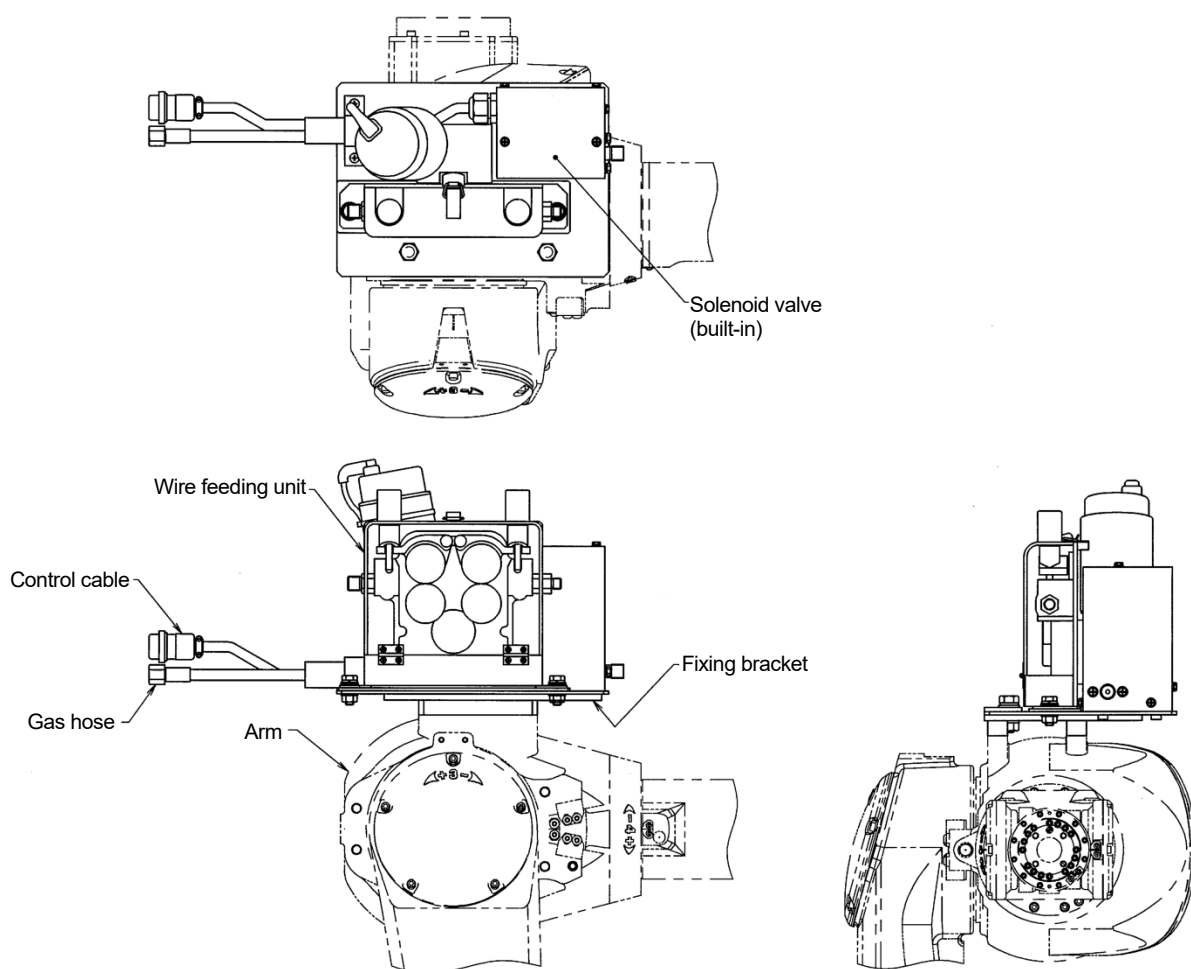

Fig. 1.3 Connection of control cable connector (Procedure 3)
3. Referring to Fig. 1.3, connect control cable (the motor cable, the encoder cable and the voltage detection cable) connector of wire feeding unit with the specified connector.